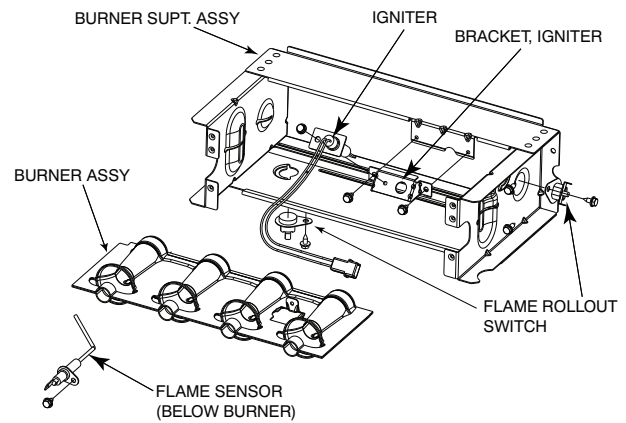
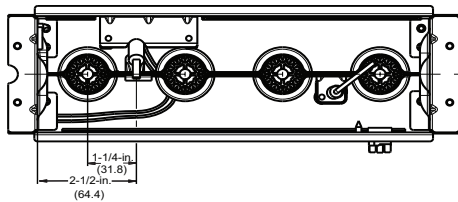
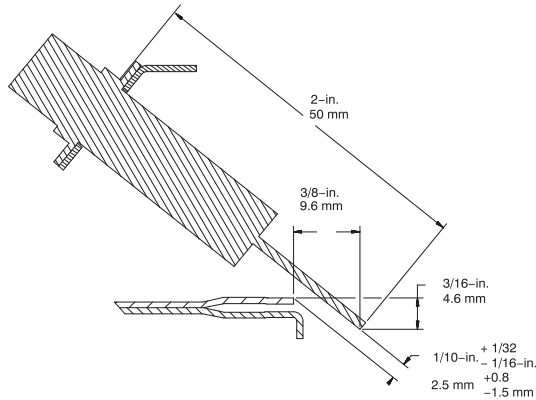

Fig. 65 – Burner Assembly
Fig. 66 – Igniter Position - Top View
Fig. 67 – Igniter Position - Side View
Refer to Fig. 65.
8. Check the igniter alignment. See Fig. 65, Fig. 66, and Fig. 67.
The igniter does **NOT** require annual inspection. Check igniter resistance before removal. Refer to Fig. 65, Fig. 66, and Fig. 67.
- a. Using a 1/4-in. driver, remove the two screws securing the igniter mounting bracket to the burner assembly. See Fig. 65.
6. To replace igniter and bracket assembly, reverse items 5a through 5d.
7. Reconnect igniter harness to the igniter, dressing the igniter wires to ensure there is no tension on the igniter itself. See Fig. 65.